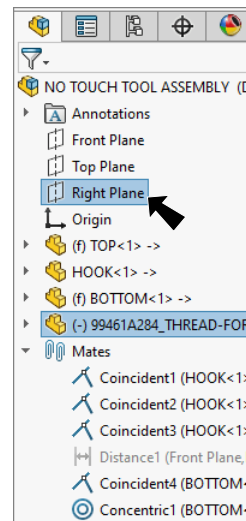

Fig. 10
Step 1. Click Zoom to Fit  (F) on the View toolbar.
Step 2. **Ctrl click Right Plane**  and **Screw** in the Feature Manager to select both, **Fig. 10.**